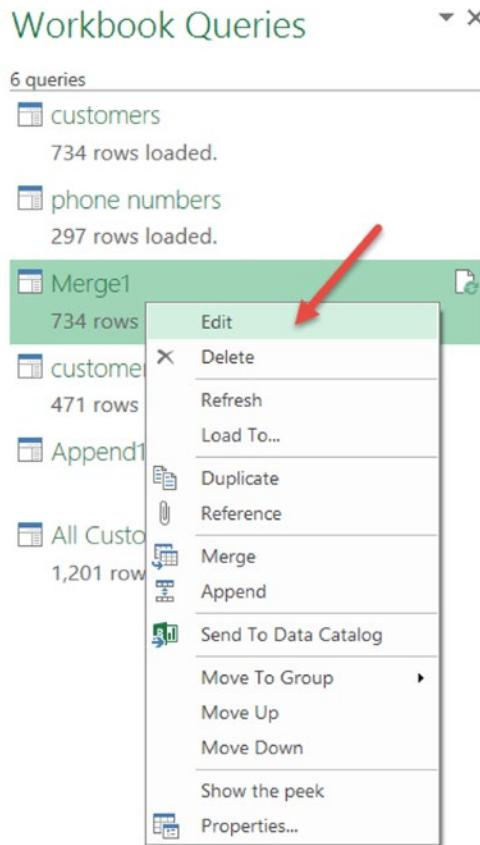

Figure 23-33. Edit and merge the data query (Merge1) by right-clicking it and choosing the Edit option
1. Right-click the connection and select Edit (see Figure 23-33).